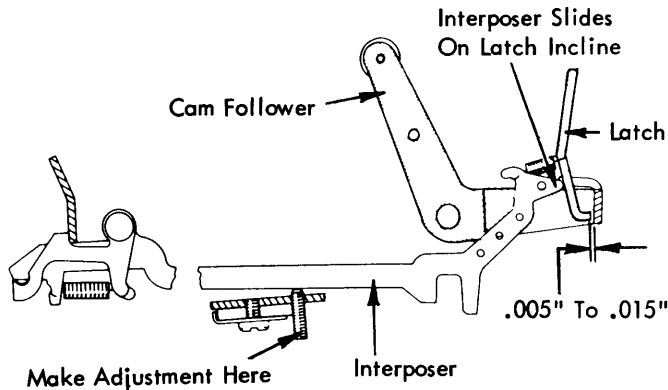

FIGURE 107. Interposer Adjusting Screw
4. **Interposer Adjusting Screws** - Adjust the interposer adjusting screws so that a front to rear clearance of .005" to .015" exists between all the operational latches and their respective cam followers (Fig. 107).